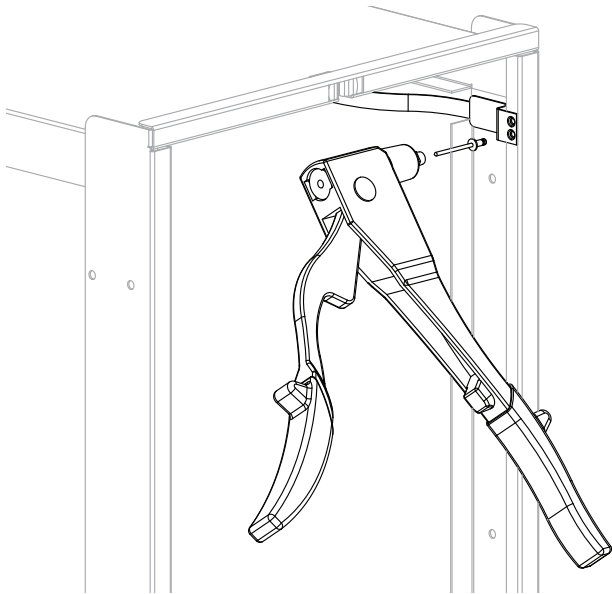

Fig. 4 - Front Screen Ground Spring Installation
4. After the mounting hole on the cabinet frame is cleared, install the new ground spring using a standard pop-rivet tool and two stainless steel rivets included in the kit. See Fig. 4.